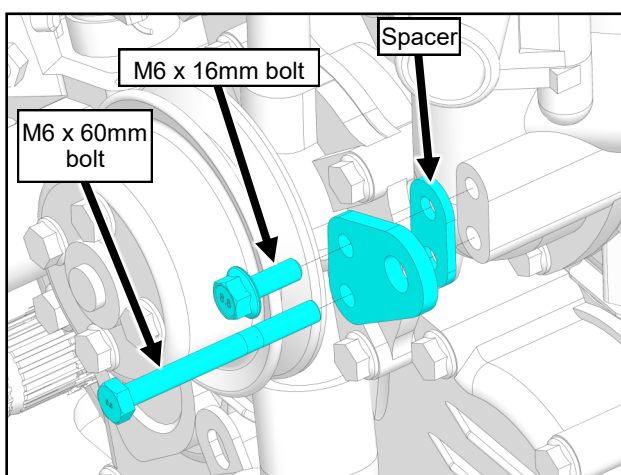

Fig. 3.3 (Alternator mounting brackets)
- 3.3 Install alternator mounting brackets per Figure 3.3. Tighten bolts.